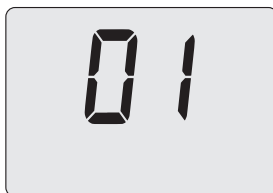

Fig. 8.39
- By using buttons 13 or 14 (Fig. 8.31) it is possible to modify the value of parameter P09 (Fig. 8.39).